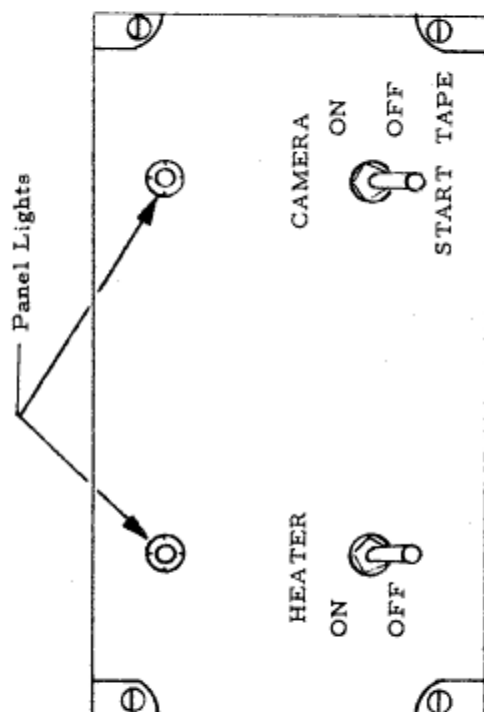

Figure 2-4. Type II Control Panel.
- 2-6. The control panel for the Type II package is shown in Figure 2-4. The control panel is located on the left cockpit console, and occupies an area approximately 6 inches by 3 inches.